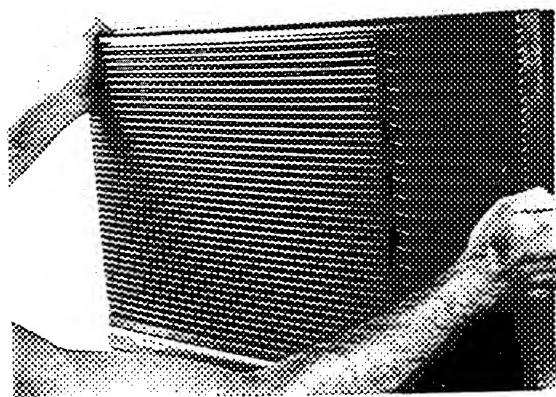

Fig. 3 — Removing Front Grille
2. Pull grille out and upward, removing it from chassis. See Fig. 3.